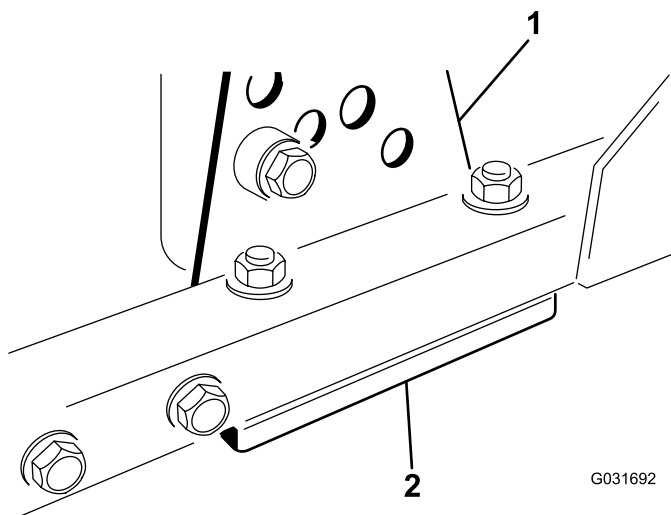

**Figure 64**
1. Remove the height-of-cut bracket (front, left, or right) from the deck frame (Figure 64).
2. Adjust 1.5 mm (0.060 inch) shims and/or 0.7 mm (0.030 inch) shim between the deck frame and bracket to achieve the desired height setting (Figure 64).